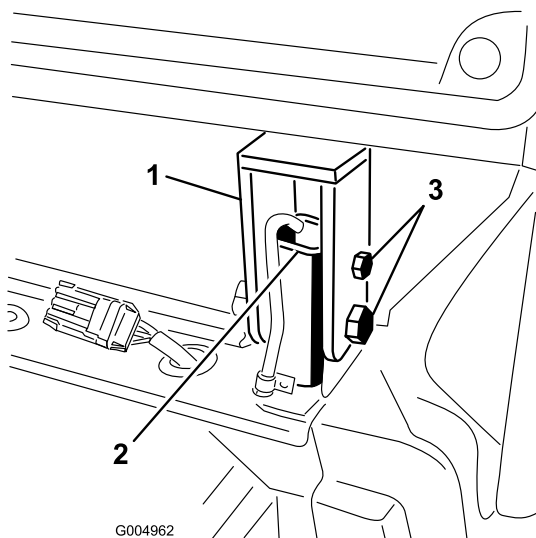

Figure 25
12. Tighten the bolts and nuts securing the rear cab mounts to the ROPS posts (Figure 25). Adjust the floor jack if the bolts are binding and difficult to remove.